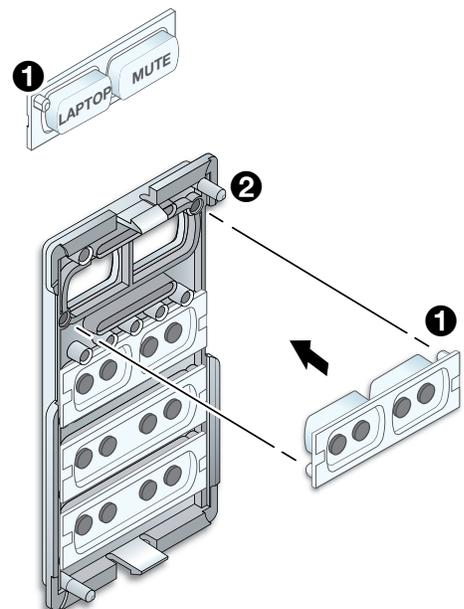

Figure 6. Replacing the Buttons
3. On the back of the bezel, insert the replacement button or button pair into the appropriate slots. Ensure the text is in the correct orientation. Align the two pegs in the button membrane (see figure 6, ①) with the holes located at opposite corners of the empty space in the faceplate.
4. Press the two buttons into the faceplate until the pegs on the membrane are seated in the corresponding holes (②).